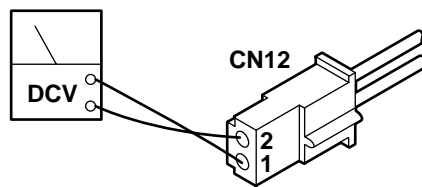

Figure 6-25. Motor Input Voltage
2. Activate any function and use a DC voltmeter to measure across the two pin connector. Pin 1(+) and pin 2(-). See figure 6-25. Meter should read 24-28 volts.